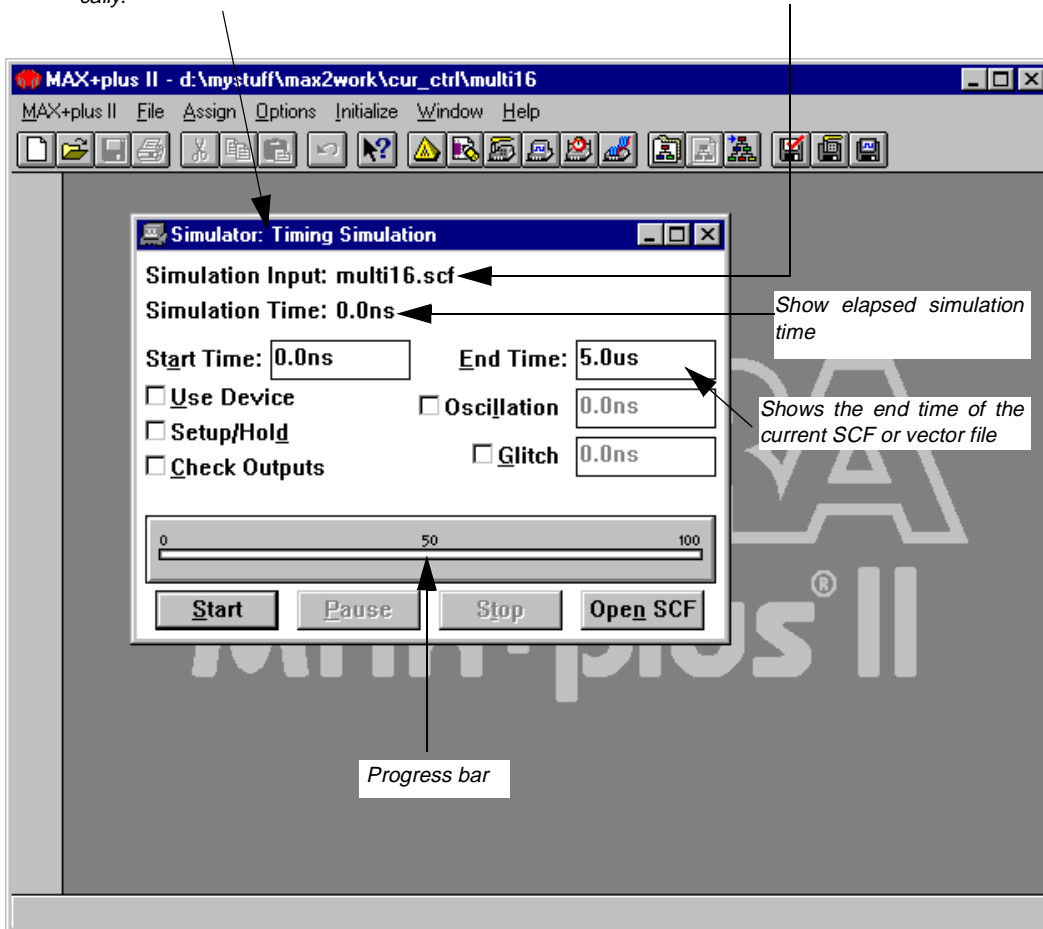

Figure 13 : Simulator screen for the MAX+PLUS II Development System
- Simulator can look for glitches and oscillations, register setup and hold time violations, setup break points on certain conditions. See Figure 13.